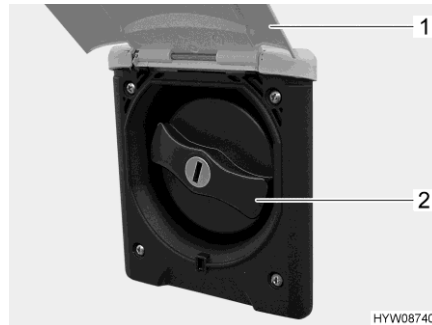

Fig. 105 Cap (drinking water filler neck)
- Swivel the external flap (Fig. 105,1) upwards.
- Turn the blue cap (Fig. 105,2) one quarter turn.